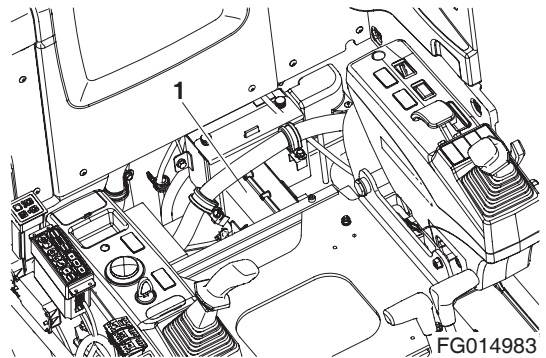

Figure 7
19. Remove rear control duct (1, Figure 7).